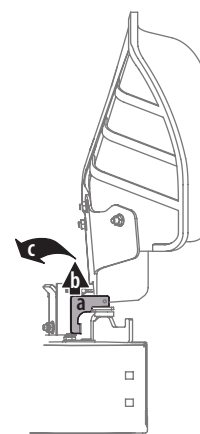

Figure 14
1. The chute is shipped attached and with a stop bracket holding the chute upright. The stop bracket must be removed prior to operating the tractor. See Figure 14.
2. Holding the chute deflector fully upward, remove the stop bracket (see Figure 14):